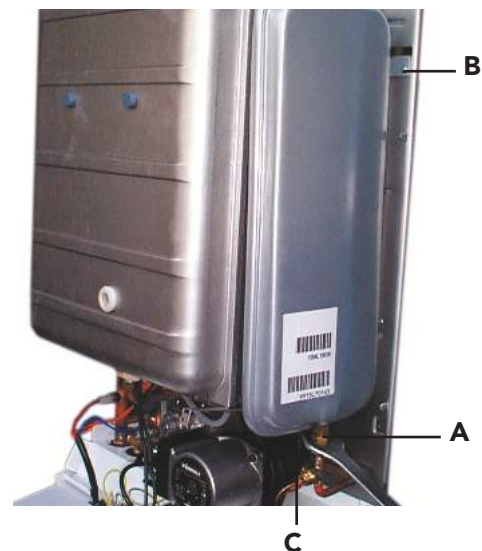

Fig. 32
7.04 Remove and re-pressurising of C.H. expansion vessel (fig. 32)